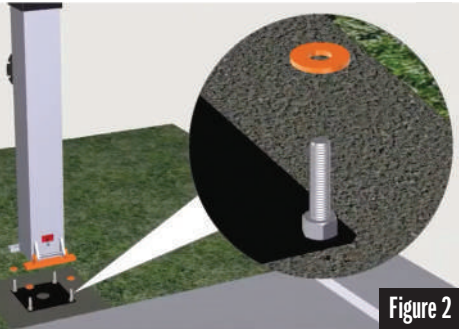

Figure 2
- Place (4) Flat Washers on the J-Bolts of the anchor plate. See Figure 2.